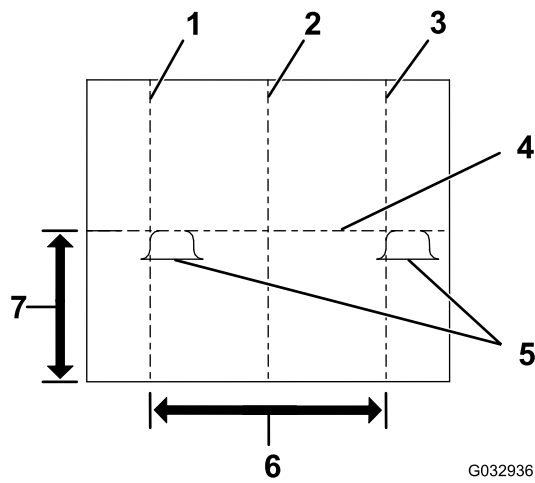

Figure 30
4. Mark the vertical vehicle centerline on the screen (Figure 30).
5. Mark the vertical headlight centerline on the screen (Figure 30).
6. Mark the horizontal headlight centerline on the screen (Figure 30).
7. Adjust the plow headlights until the brightest part of the plow low-beam lights are aligned as shown in Figure 30.